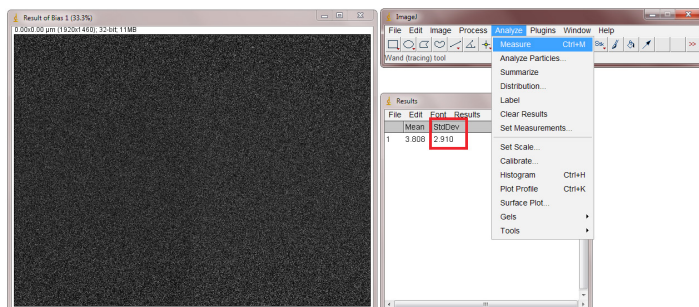

Figure 13
3. Measure the Standard Deviation of the diff image, we'll call this Standard deviation_{Diff image} (Figure 13).